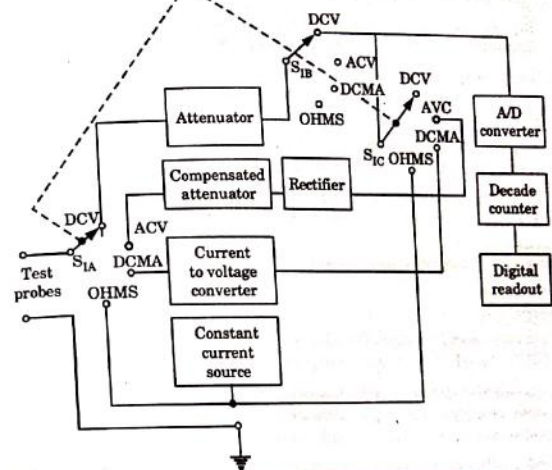

Fig. 4.19.2. Block diagram of a digital multimeter.
7. The block diagram of a digital multimeter is shown in Fig. 4.19.2.